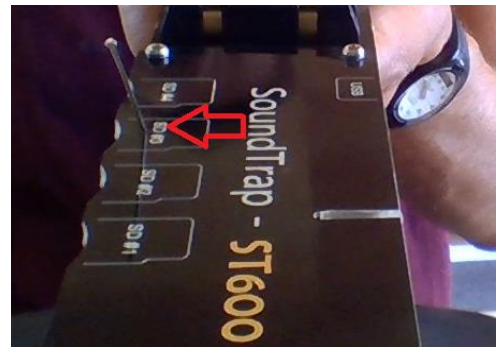

Figure 4 - Location of reset switch
Note the 'Status' panel on the right (Figure 4). Carefully review the state of memory and batteries in the right-hand pane, checking that all batteries show 100% charge and all memory show 0% used.
- Select the 'Deploy' tab as shown in figure 4.